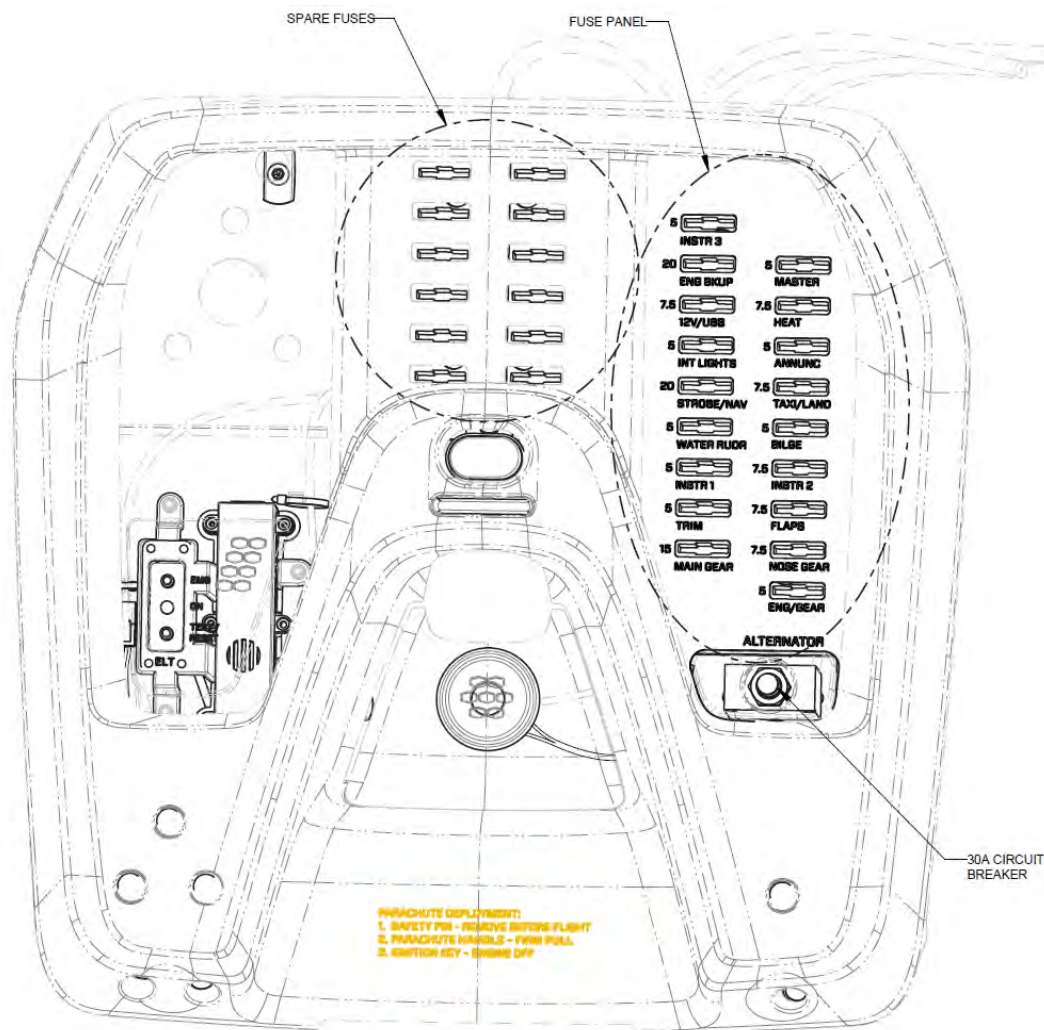

FIGURE 13-6
Use this procedure to replace any indicated fuse mounted in the overhead console shown in Figure 13-6.
3. Select the appropriate spare fuse. The spare fuses are located in the middle of the overhead console as shown in Figure 13-6. The fuse should match the blown fuse in both color and amp rating. Discard the blown fuse.